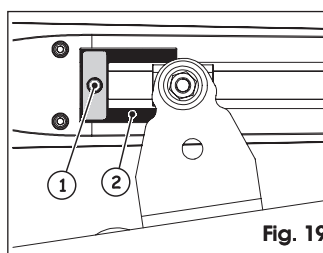

Fig. 19
3. Loosen the securing screw, figure 19 ref. ①. The screw does not need to be completely removed.
The mechanical stop is coupled to a toothed sector, figure 19 ref. ②. In the case of obstructions during movement, check that the coupling is free. DO NOT USE FORCE.